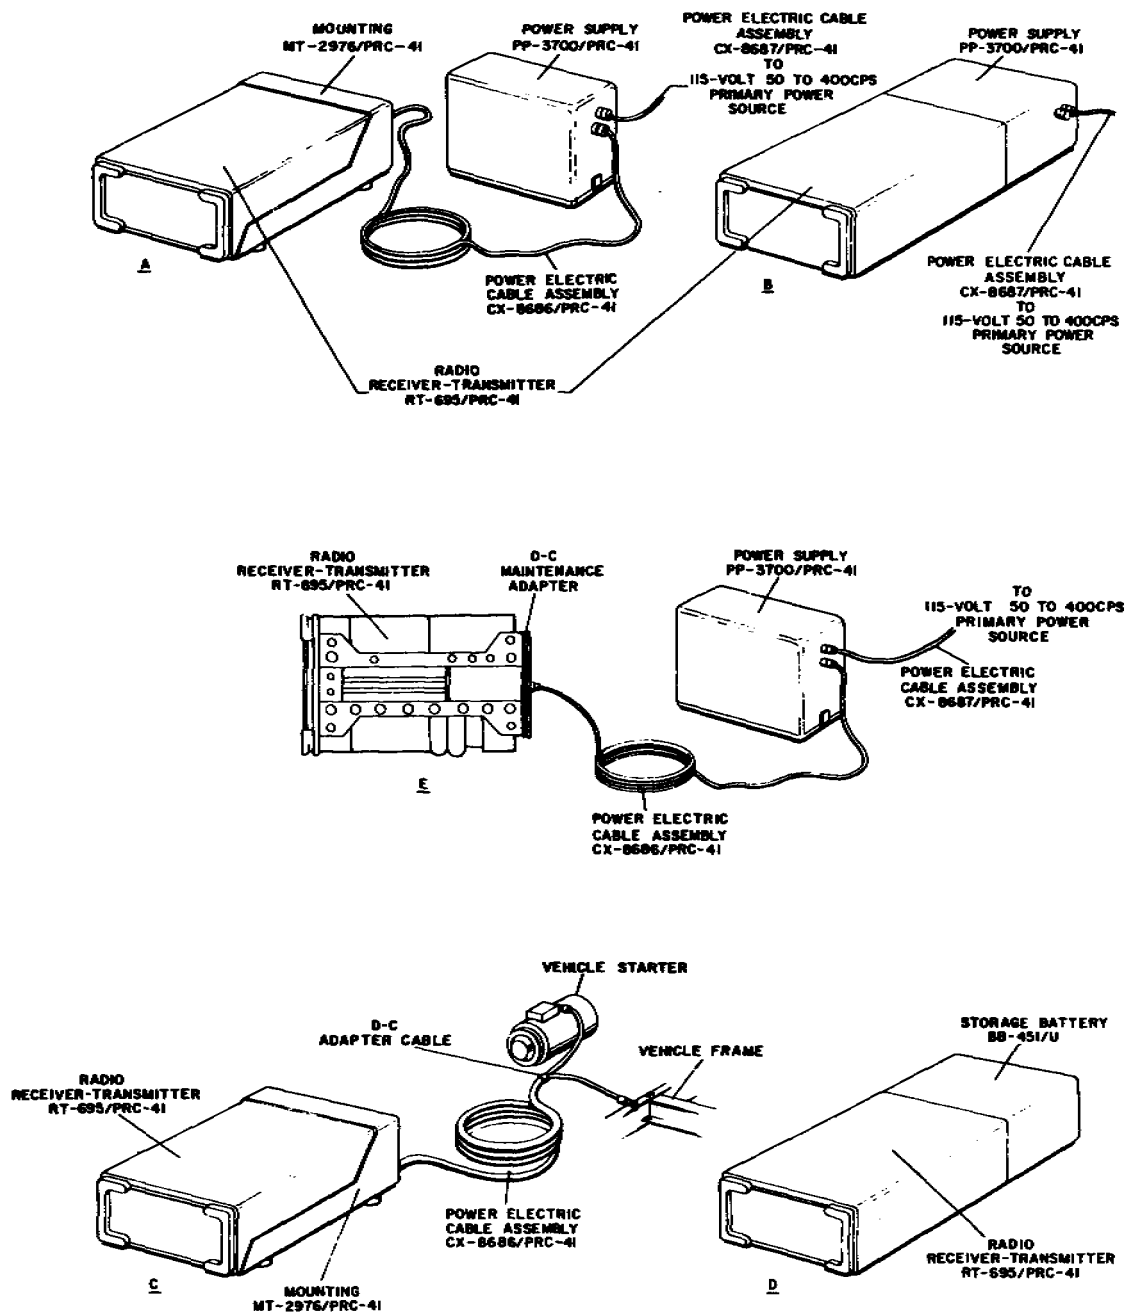
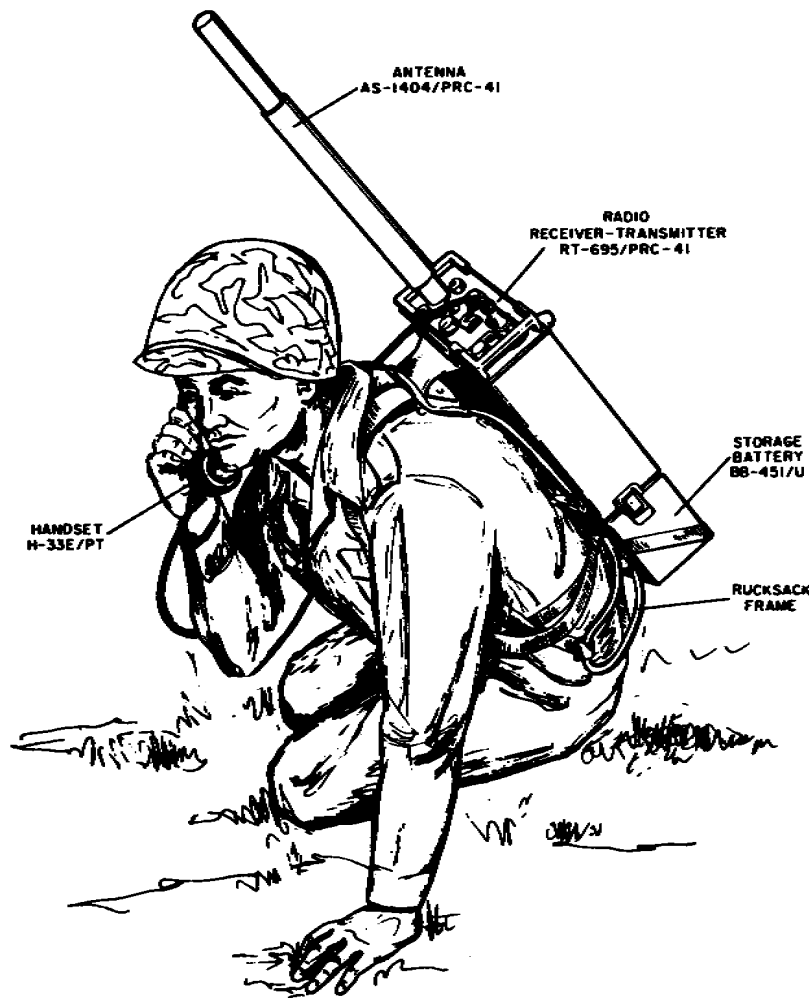
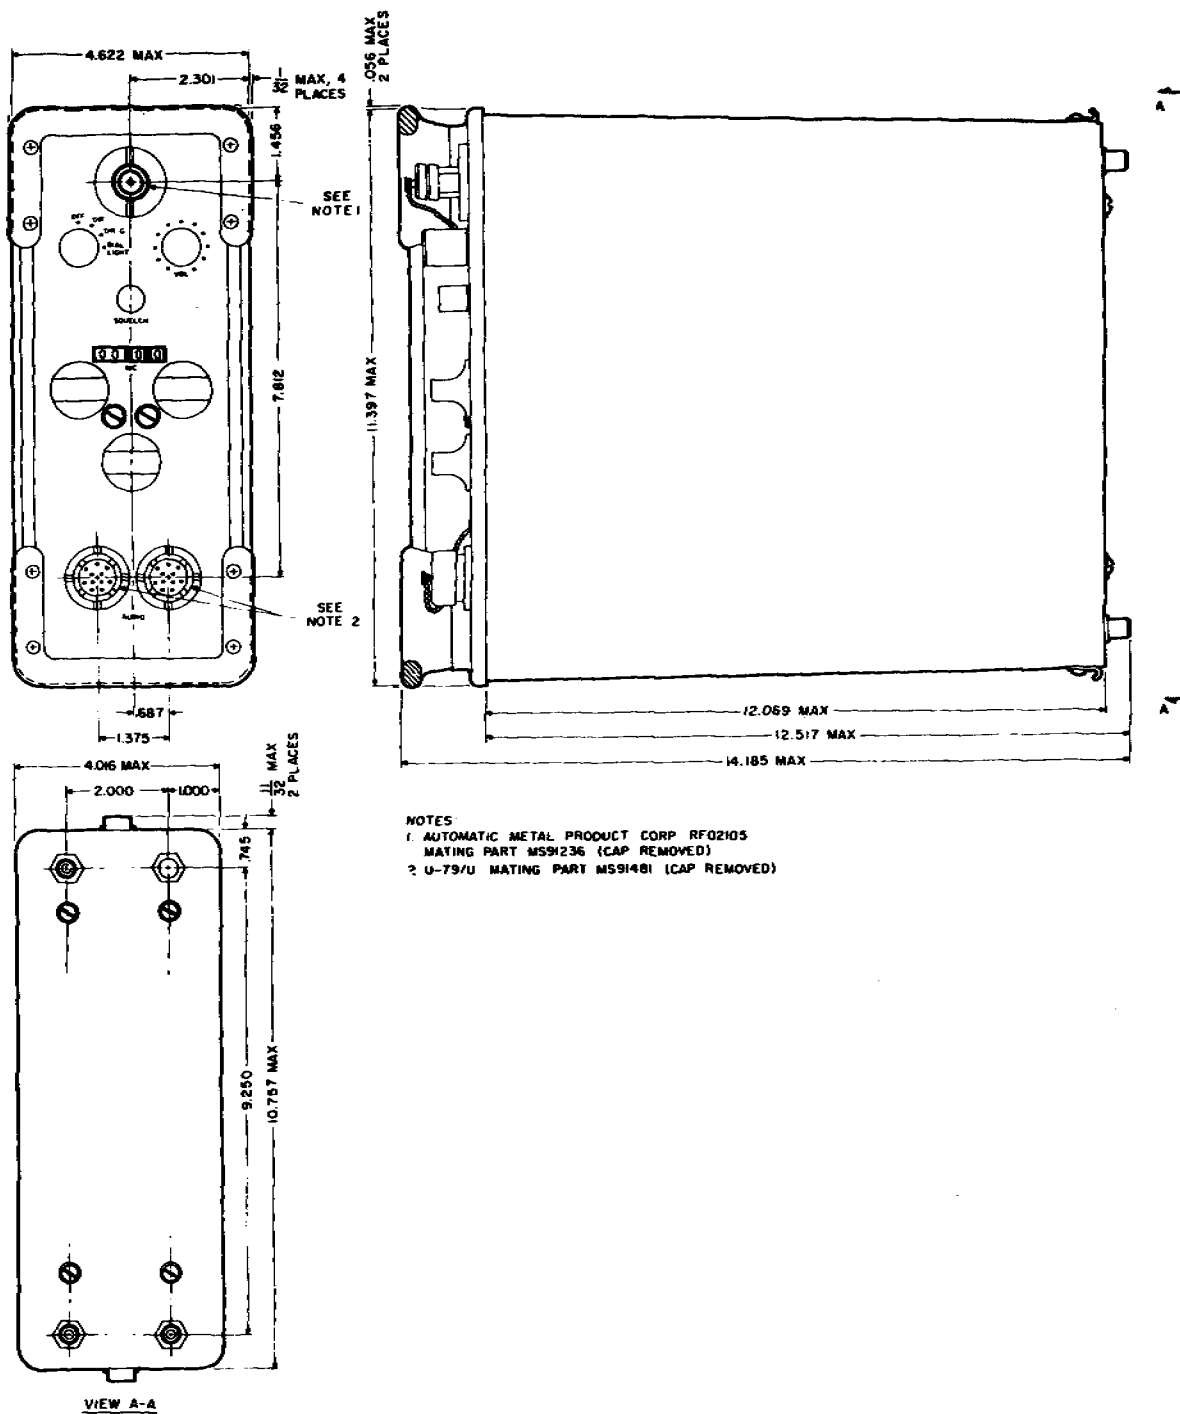
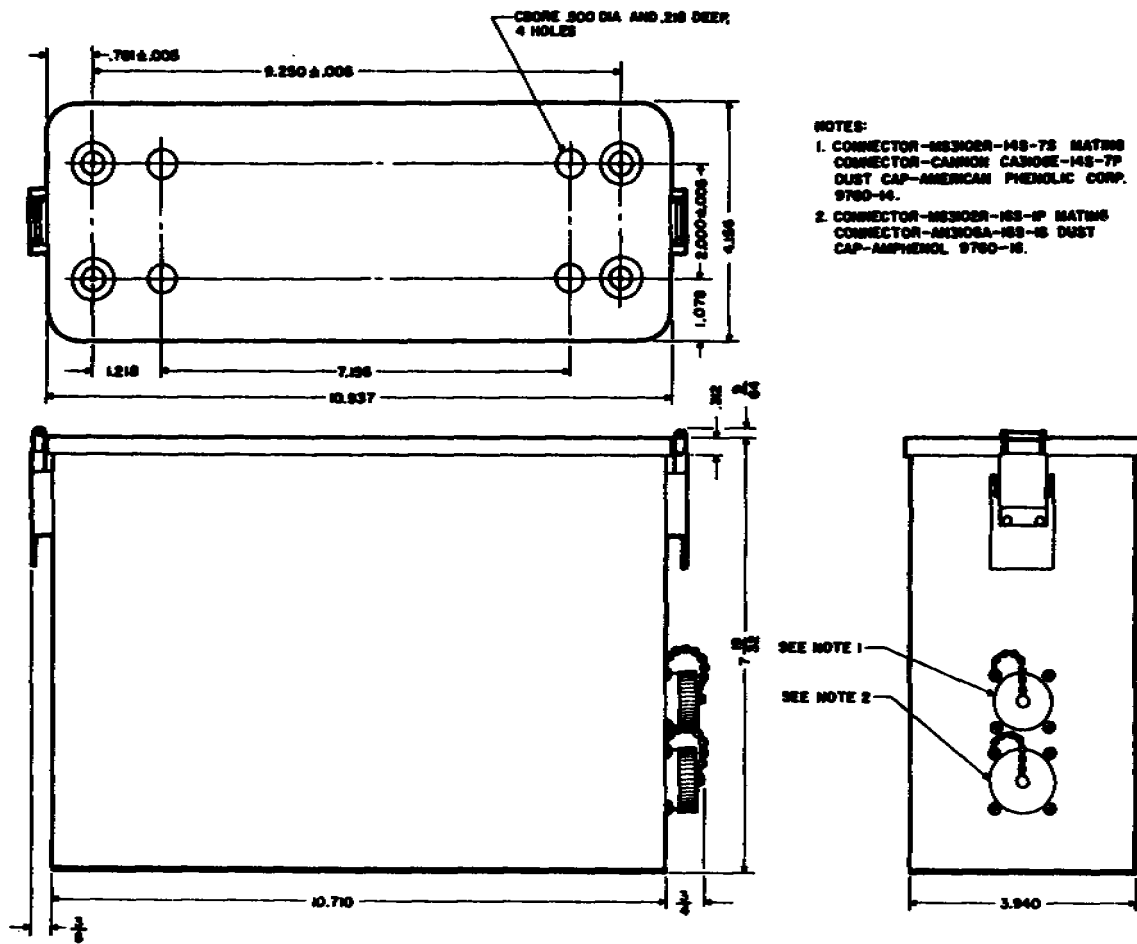

Figure 2-3. Source of Power Configurations of Radio Receiver-Transmitter RT-695/PRC-41
Figure 2-4. Radio Set AN/PRC-41, Man-Pack Installation
Figure 2-13. Radio Receiver-Transmitter RT-695/PRC-41, Outline and Mounting Dimensions
Figure 2-14. Power Supply PP-3700/PRC-41, Outline and Mounting Dimensions
a. POWER PROVISIONS. - Radio Receiver- RT-695/PRC-41 requires a nominal 26.5-volt d-c primary source. This supply may be provided by use of Power Supply PP-3700/PRC-41, Storage Battery BB-451/U, or by an aircraft or vehicular battery supply. Figure 2-3 illustrates the various configurations which may be used to supply the required d-c primary power to Radio Receiver- RT-695/PRC-41.
Primary Power for Radio Receiver-Transmitter RT-695/PRC-41 may be provided by a separately located power supply PP-3700/PRC-41. Refer to part A of figure 2-3. In this configuration, Power Electric Cable Assembly CX-8686/PRC-41 is used to connect the 26.5-volt d-c output from the PP-3700/PRC-41 to Mounting MT-2976/PRC-41 and to the RT-695/PRC-41, Power Electric Cable Assembly CX-8687/PRC-41 is used to connect the 115-volt a-c primary power to Power Supply by PP-3700/PRC-41. Primary power for Radio
Receiver-Transmitter RT-695/PRC-41 may also be provided by Power Supply PP-3700/PRC-41 attached directly to the RT-695/PRC-41 as shown in part B of figure 2-3. This configuration uses Power Electric Cable Assembly CX-8687/PRC-41 to connect the primary 115-volt a-c supply to Power Supply PP-3700/PRC-41. For aircraft or vehicular operation, Radio Receiver- RT-695/PRC-41 may be mounted on Mounting MT-2976/PRC-41 and connected to the aircraft or vehicular battery supply through Power Electric Cable Assembly CX-8686/PRC-41 and the d-c adapter cable. Refer to part C of figure 2-3. For man-pack operation, Storage Battery BB-451/U is attached directly to the rear of Radio Receiver RT-695/PRC-41 to provide the required d-c primary supply voltage. Refer to part D of figure 2-3. For operation of Radio Receiver- RT-695/PRC-41 with its case removed, the d-c maintenance adapter must be secured to the rear of the RT-695/PRC-41 and Power Electric Cable Assembly CX-8686/PRC-41 must be connected between the d-c maintenance adapter and Power Supply PP-3700/PRC-41. The 115-volt a-c primary supply is then connected through Power Electric Cable Assembly CX-8687/PRC-41 to Power Supply PP-3700/PRC-41. Refer to part E of figure 2-3.
The assembly layout of Radio Set AN/PRC-41 is dependent on the type of installation required. Radio Set AN/PRC-41 may be assembled for man- fixed station, or vehicular operation. Refer to figures 2-4 through 2-7. For outline and mounting dimensions, refer to figures 2-13 through 2-17.
a. MAN-PACK INSTALLATION. - Refer to figure 2-4. In man-pack installation, Radio Receiver- RT-695/PRC-41 is provided primary power by Storage Battery BB-451/U, and Antenna AS-1404/PRC-41 is connected directly
(1) MOUNTING AND POWER CONSIDERATIONS. - When Radio Receiver-Transmitter RT-695/ PRC-41 is used in a vehicular installation. it is mounted on Mounting MT-2976/PRC-41 and supplied power through Power Electric Cable Assembly CX-8686/PRC-41 and the dc adapter cable from the vehicle battery supply. Refer to part C of figure 2-3. Refer to figures 2-13 and 2-16 for outline and mounting dimensions when fastening the shockmounts of Mounting MT-2976/PRC-41 to the vehicle. When the RT-695/PRC-41 is used in an aircraft, it is mounted in the same way as for a vehicular installation. Power for an aircraft installation is supplied by Power Supply PP-3700/PRC-41 which may be located at some remote location in the aircraft. Power Supply PP-3700// PRC-41 clamps to Mounting MT-2977/PRC-41. Mounting MT-2977/PRC-41 must be secured to the aircraft frame. Refer to figures 2-14 and 2-17 for outline and mounting dimensions. Power Electric Cable Assembly CX-8687/PRC-41 connects Power Supply PP-3700/PRC-41 to the 115-volt, 50- to 400- primary aircraft supply. Power Electric Cable Assembly CX-8686/PRC-41 is used to connect Power Supply PP-3700/PRC-41 to Mounting MT-2976/ PRC-41 to supply power to the RT-695/PRC-41.